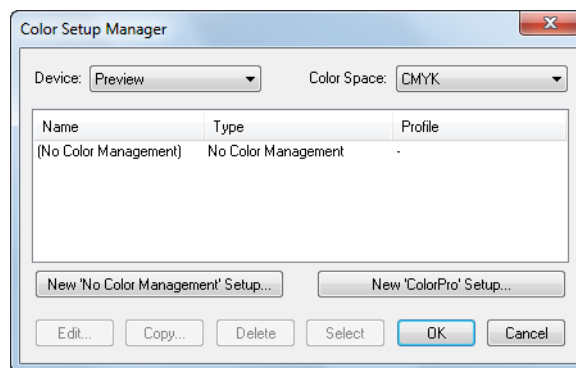
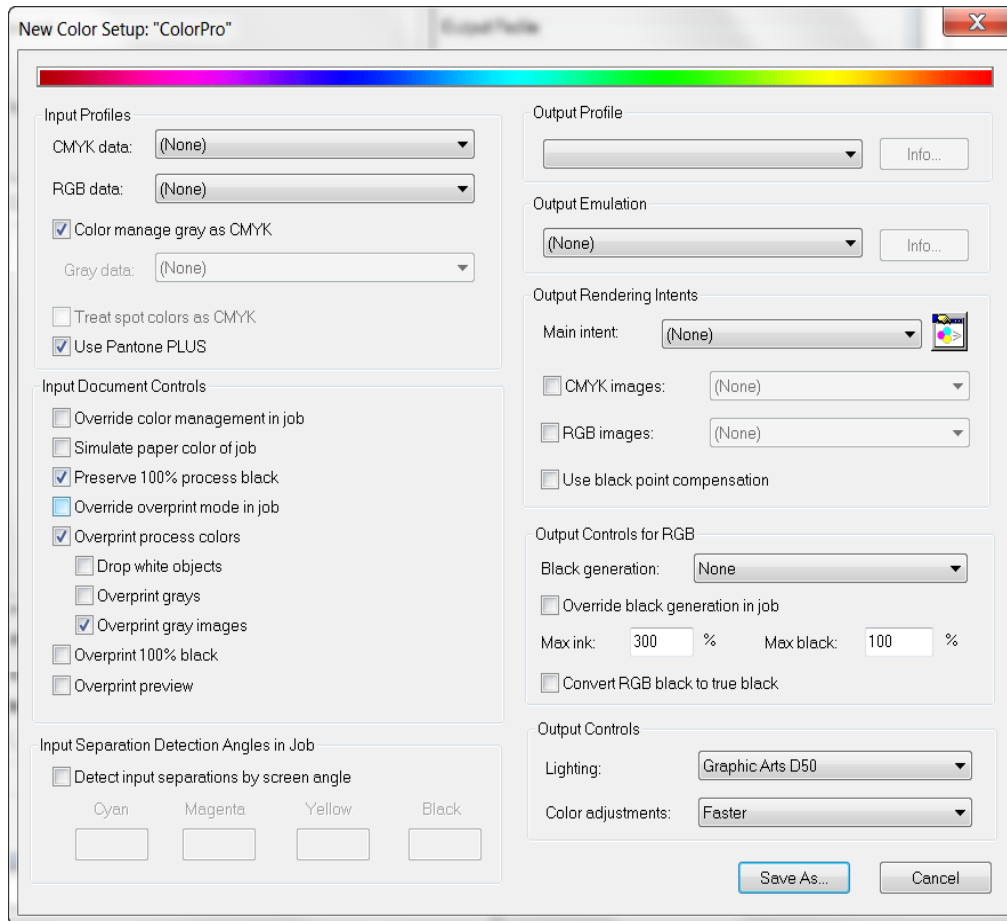

Figure 9 The Color Setup Manager
Figure 10 The New Color Setup dialog
Using the Color Setup Manager (Figure 9) and the options that are available in the New Color Setup dialog (Figure 10), you can add your own color setups to specify precisely how you want the colors in your jobs to be processed.
1. Select **Color > Color Setup Manager** to open the Color Setup Manager (Figure 9).
3. Click **New 'ColorPro' Setup...** to open the New Color Setup dialog (Figure 10).